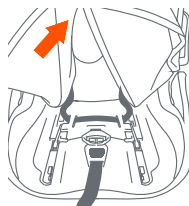

Fig. 31-1
- Pull back lower half of the seat pad (Fig. 31-1).